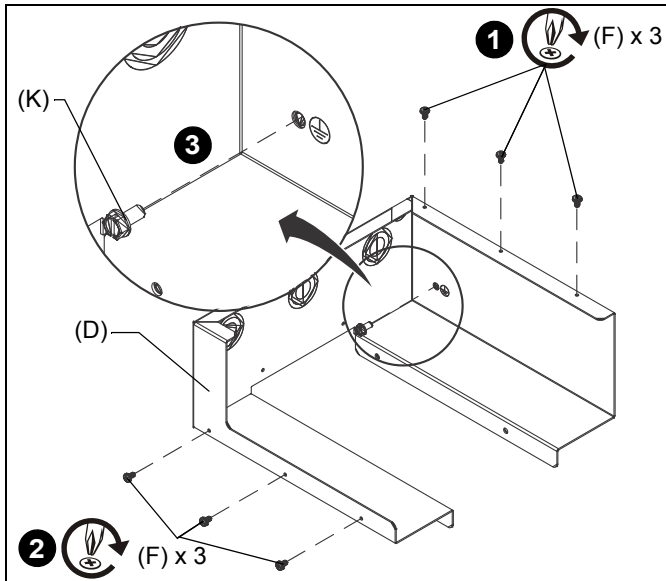
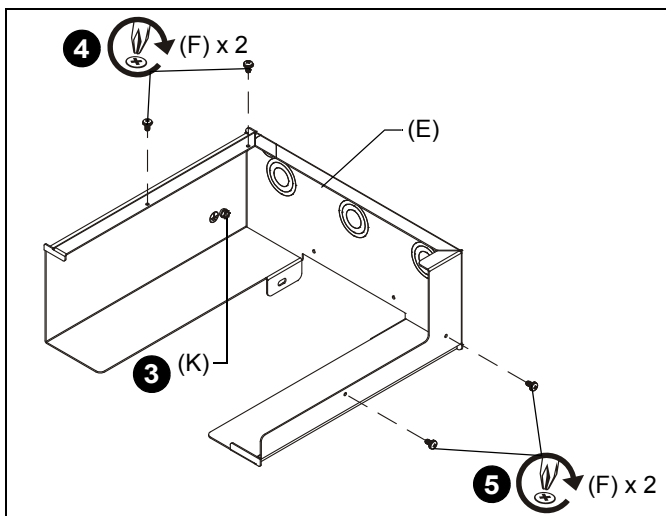

Figure 1
Figure 2
1. Loosely install three 10-24 x 3/8" Phillips pan head screws with external teeth (F) into the top edge of the box body-left (D). (See Figure 1)
2. Loosely install three 10-24 x 3/8" Phillips pan head screws with external teeth (F) into the side edge of the box body-left (D). (See Figure 1)
3. Install one grounding screw (K) into box body-right (E) and -left (D). (See Figure 1) and (See Figure 2)
4. Loosely install two 10-24 x 3/8" Phillips pan head screws with external teeth (F) into the top edge of the box body-right (E). (See Figure 2)
5. Loosely install two 10-24 x 3/8" Phillips pan head screws with external teeth (F) into the side edge of the box body-right (E). (See Figure 2)